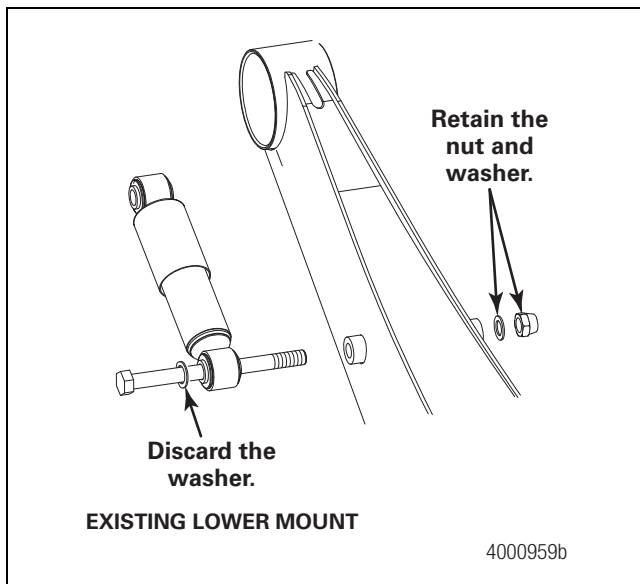

Figure 9.29
5. Remove the 7/8-inch (22.23 mm) nut and 7/8-inch x 1-3/4-inch O.D. (22.23 x 44.45 mm) washer from the LOWER shock absorber mounting. Do not discard this washer. Figure 9.29.
- Remove the 7/8-inch (22.23 mm) nut and 7/8-inch x 1-3/4-inch O.D. (22.23 x 44.45 mm) washer from the LOWER shock absorber mounting. Remove the lower bolt and washer from the shock absorber. Discard the washer that's under the bolt head. Figure 9.29.